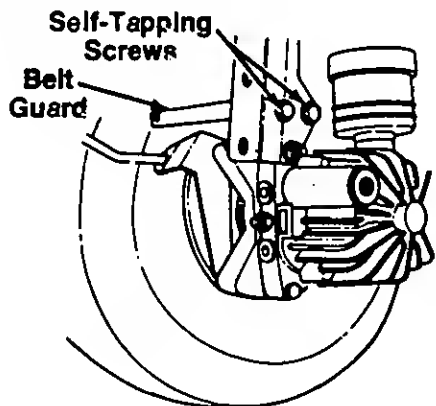

FIGURE 22.
5. Remove the rear belt guard at the transmission pulley by removing the two self-tapping screws shown in figure 22.